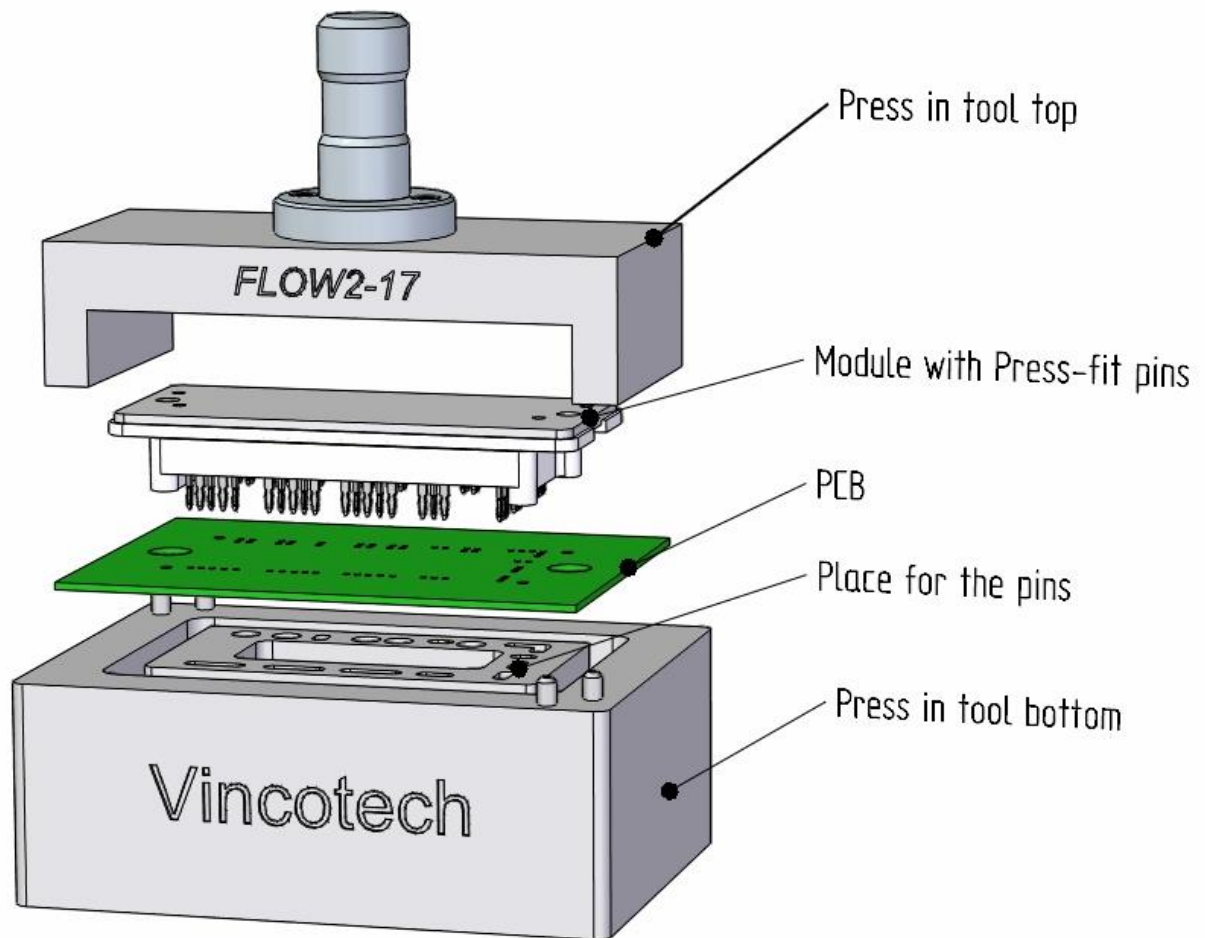
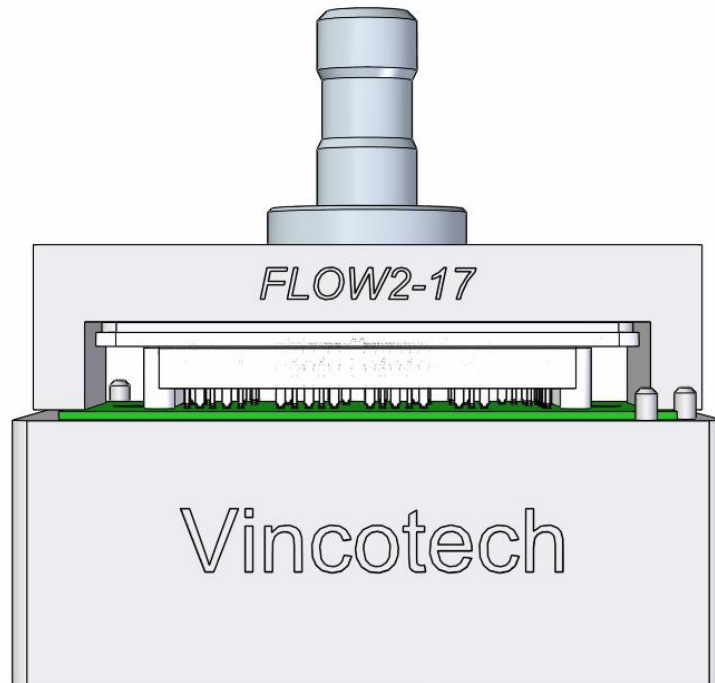

Figure 15: Recommended construction for the press in process
Figure 16: Press-in tools closed, module is pressed in
- The module can be pressed into the PCB from the top (as Figure 15 & Figure 16 shows) or the PCB can be pressed onto the module from the top (the module is below the PCB).
This condition is automatically fulfilled with the use of the recommended press-in tool. Figure 16 shows the closed press-in tool with the module.